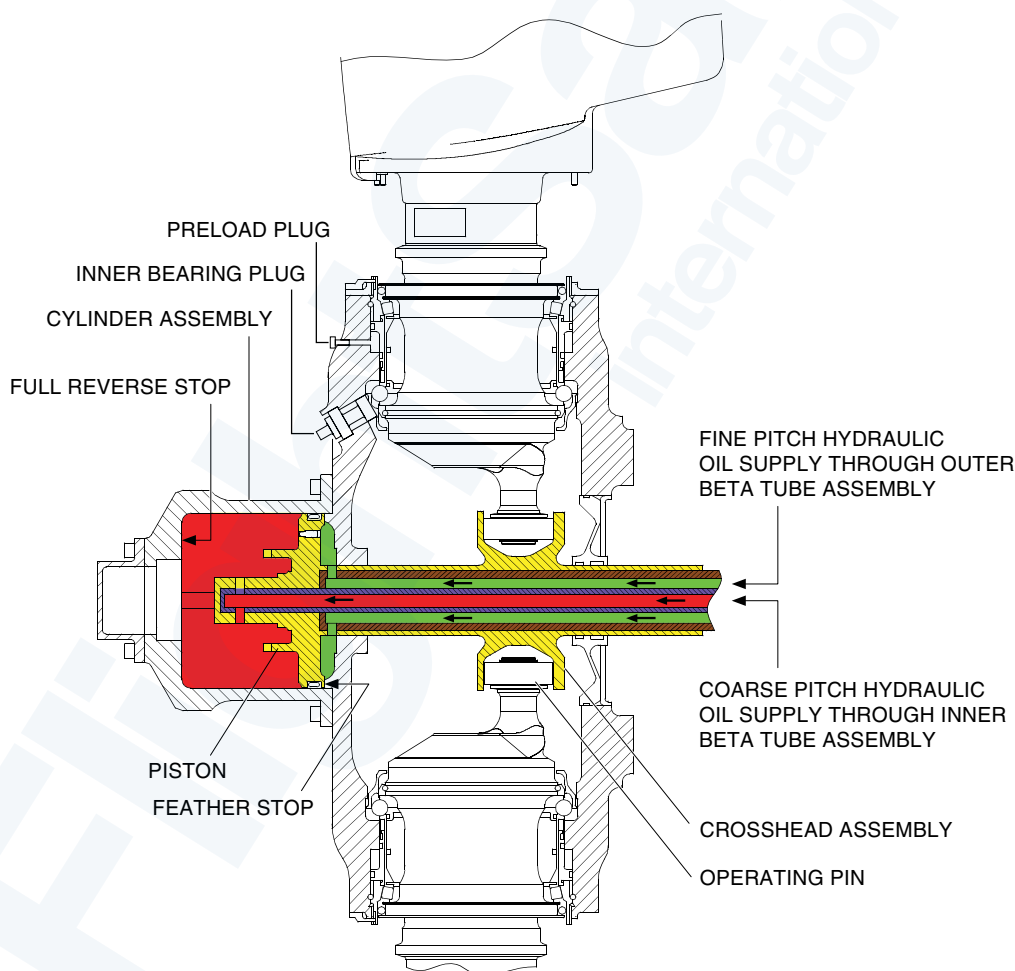

Figure 61-19. Propeller Function Diagram
- Figure 61-19. Propeller Function Diagram.